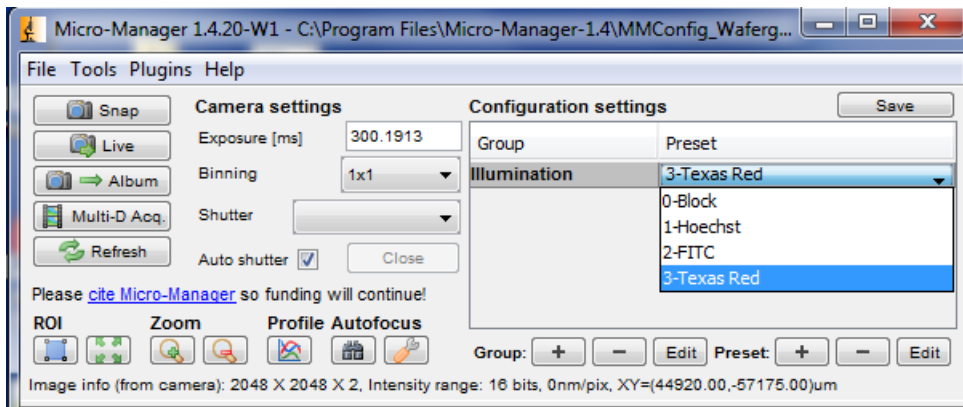

Figure 16. Setting the illumination channel to Texas Red.
- In the *Main* window, under “Configuration settings”, select **Texas Red** as the illumination channel for examination of fiducial-containing nanowells (Figure 16).